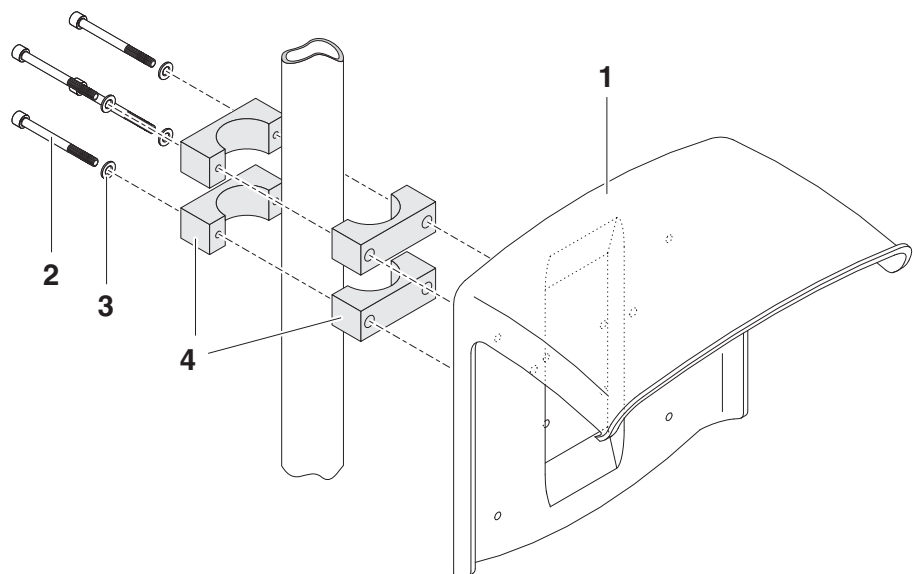

figure 3-20 Mounting the SSH/IQ sun shield on a mounting stand
- 1 Screw the sun shield (pos. 1 in figure 3-20) with the four hexsocket head screws (pos. 2), the washers (pos. 3) and the clamps (pos. 4) at the required height on the mounting stand from the back.